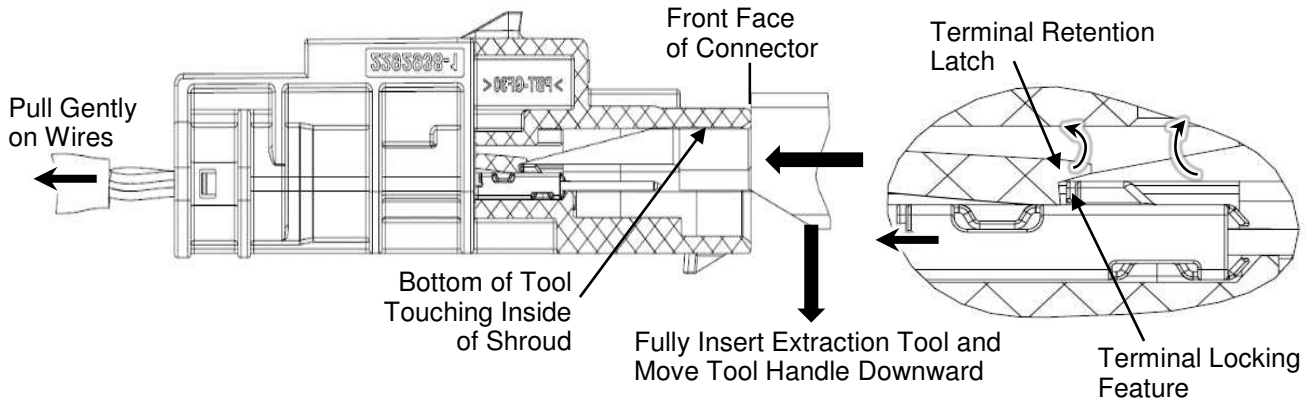

Figure 9
- a. Insert the tips of Extraction Tool (PN 2844610-1) into the mating face of the connector. Align the bottom surface of the tool with the inside of the shroud. **The tool will bottom against the front face of the connector when fully inserted** (see Figure 9).